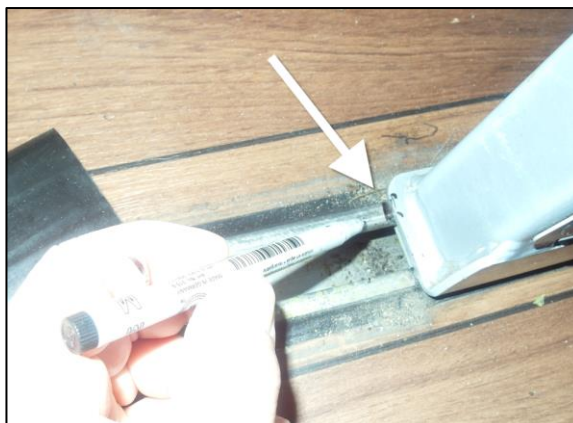

FIGURE 4
5. Mark a line on the rail with a permanent marker (Figure 4). This mark will position the seat during reinstallation.